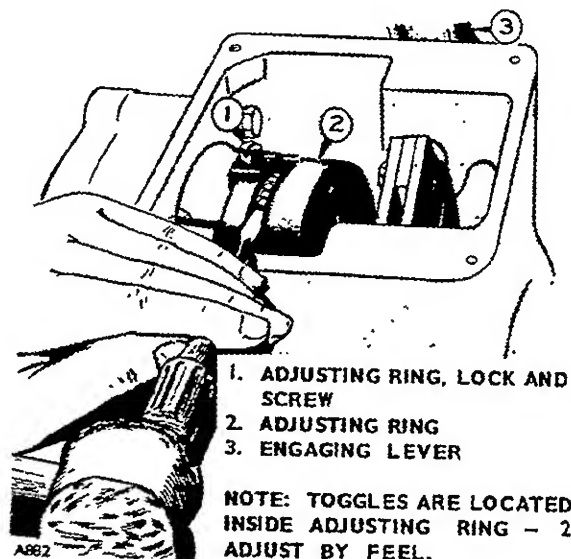

FIGURE 81. ROCKFORD CLUTCH
With the engine stopped, the clutch released (disengaged lever position) and the top plate removed from the clutch housing, turn the adjusting ring (2) inward (clockwise facing power take-off shaft) until the toggles cannot be locked over center (Figure 81). Locking screw (1) may remain tightened.